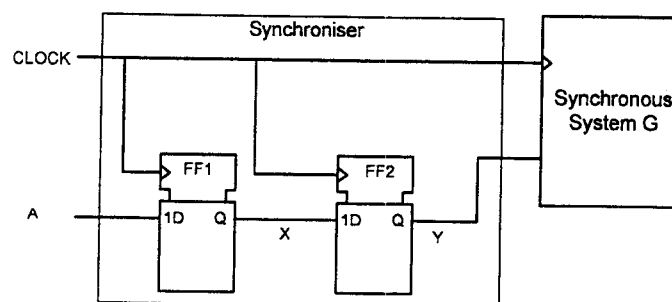

Figure 6.1
- b) Figure 6.1 shows a circuit to synchronise an asynchronous input A to a synchronous system G. The synchronous system G can operate with a maximum clock frequency of 300 MHz and the input setup time is 2 ns. Flip-flops FF1 and FF2 have a setup time of 2 ns, a hold time of 0 ns, and a clock-to-output delay of 2 ns. Ignoring the possibility of metastability, what is the maximum clock frequency of this circuit?